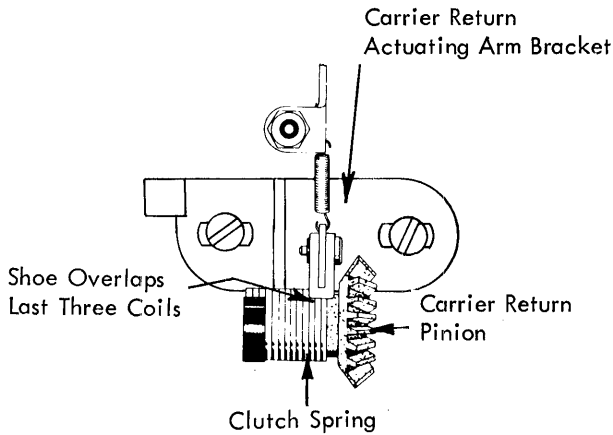

FIGURE 208. Carrier Return Shoe
5. Carrier Return Shoe - Adjust the carrier return actuating arm bracket left or right so that the carrier return shoe overlaps the last 3 coils on the right hand end of the clutch spring. Covering the last 3 coils insures that all the coils of the spring will be used in the clutch operation (Fig. 208).